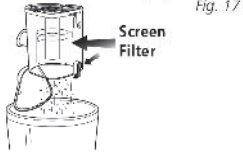

Fig. 18
- 3 If needed, turn the dust cup upside down over the trash receptacle and press the top door release button. (Fig. 18) Tap gently to remove contents. Use a dry cloth or paper towel to remove debris stuck to the screen filter inside the dust cup. Press the door shut again until it clicks.